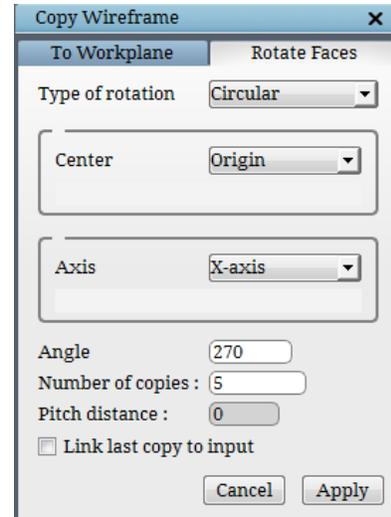

Figure 4.75: Faces tab dialog box
**Rotate Faces** tab is used for copy and rotating the given wireframe using the angle, number of instance and the pitch. This tool can be useful where geometries have a same cross section but in a cylindrical or helical path. When you have the same cross-section, you can create a 2D wireframe on a plane and then copy it to the end of the cross-section using the copy drop back edges button if it is on the same axis. But when the axis is changing in a cylindrical or helical path, it becomes difficult to copy and move it to position the wireframe approximately to the geometry. So in such cases, the Sheet rotation can be used to copy the wireframe. Clicking on the **Faces** button under **Edit (Topology)** section opens a dialog box as shown in Figure 4.75.